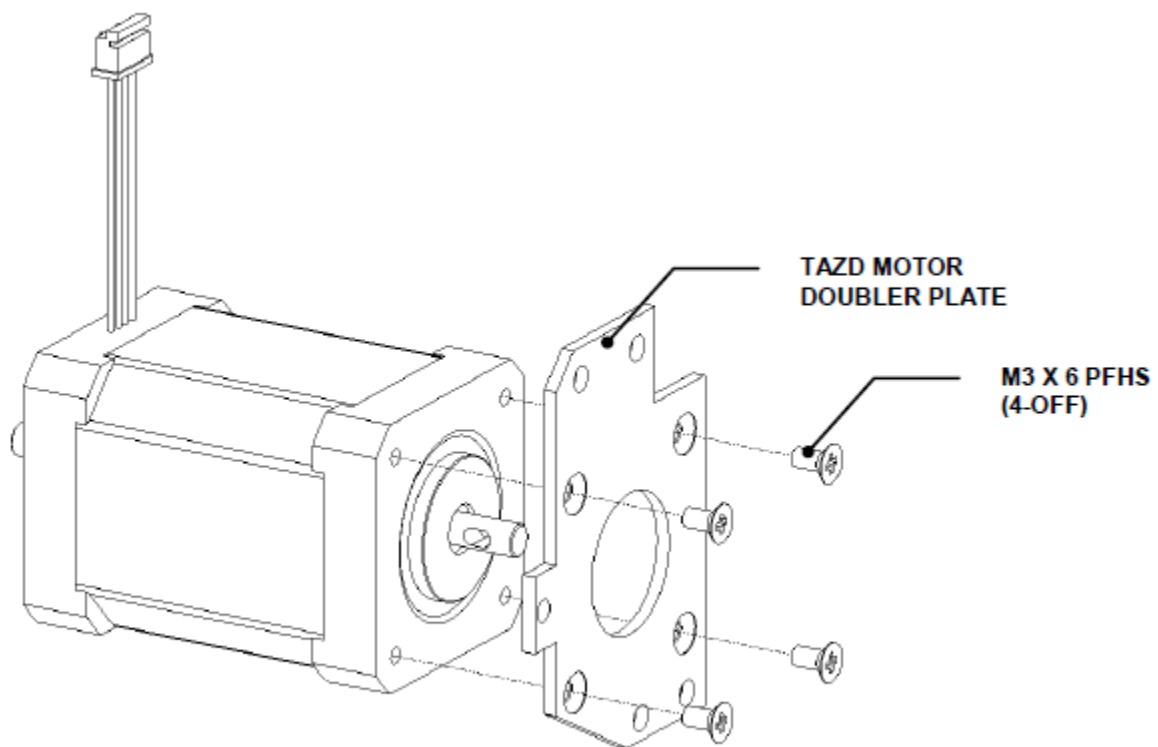

Figure Z-20: Removing the Motor Doubler Plate
4. Remove the TAZD Doubler Plate (Figure Z-20).